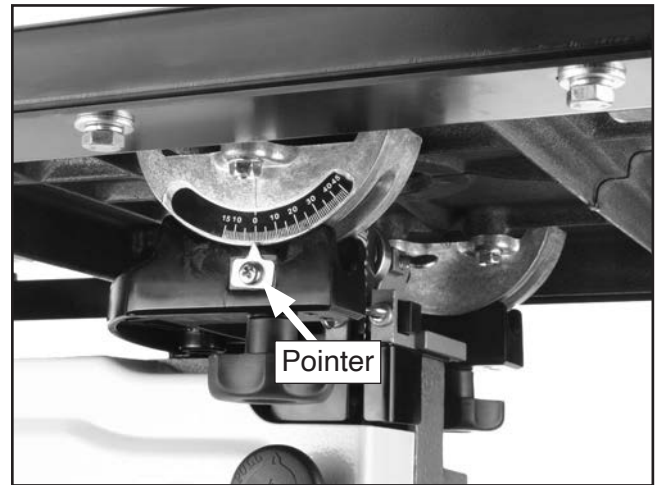

Figure 39. Table tilt scale location.
2. Loosen the screw on the pointer (see **Figure 39**), but do not remove it.